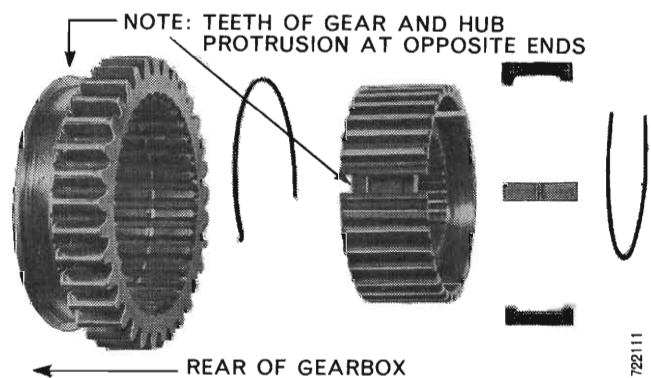

Fig. 14 - Exploded view—first and second speed synchronizer.
(1) Lubricate the synchronizer sleeve and reverse gear and fit to the inner hub with the teeth of the gear and the inner hub spline protrusion at opposite ends.
(2) Slide the sleeve across the hub until three shift plates can be fitted into the slots in the inner hub.
(3) Install two synchronizer springs under the shift plates behind the pads with the long lug of each spring in the same shift plate.
**NOTE:** The spring tangs should locate on opposite sides of the same shift plate so that the spring openings do not line up—see Fig. 14.